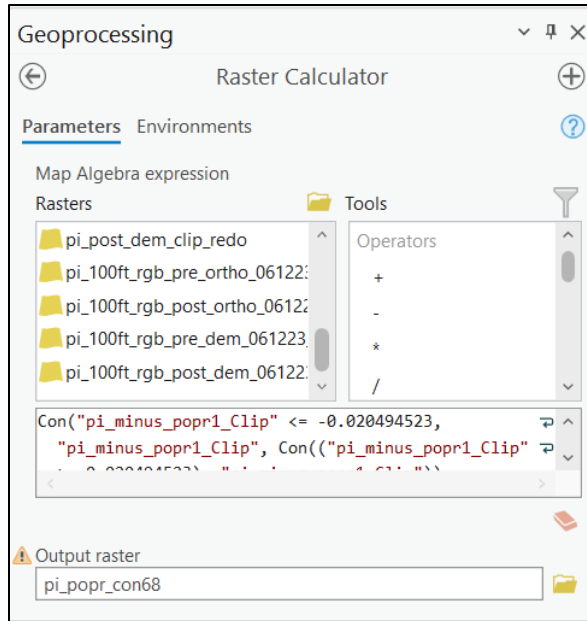

Figure 5. Screenshot of an example of the formula to be used in the raster calculator.
- a. Analysis tab → Tools → Raster Calculator (Fig. 5).